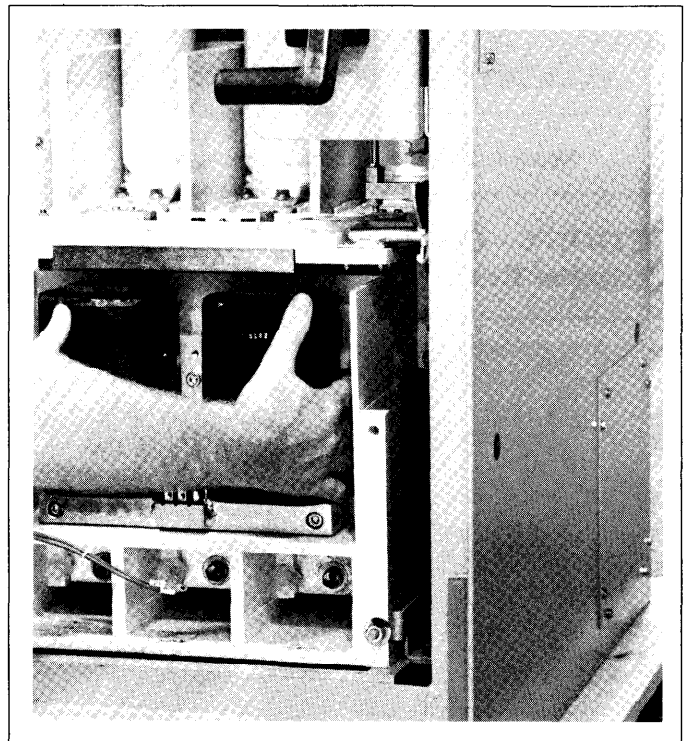
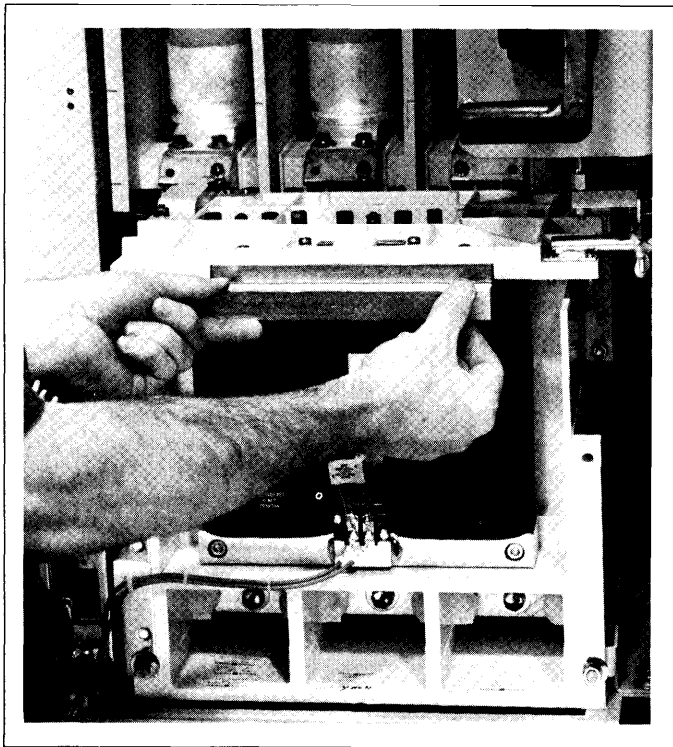
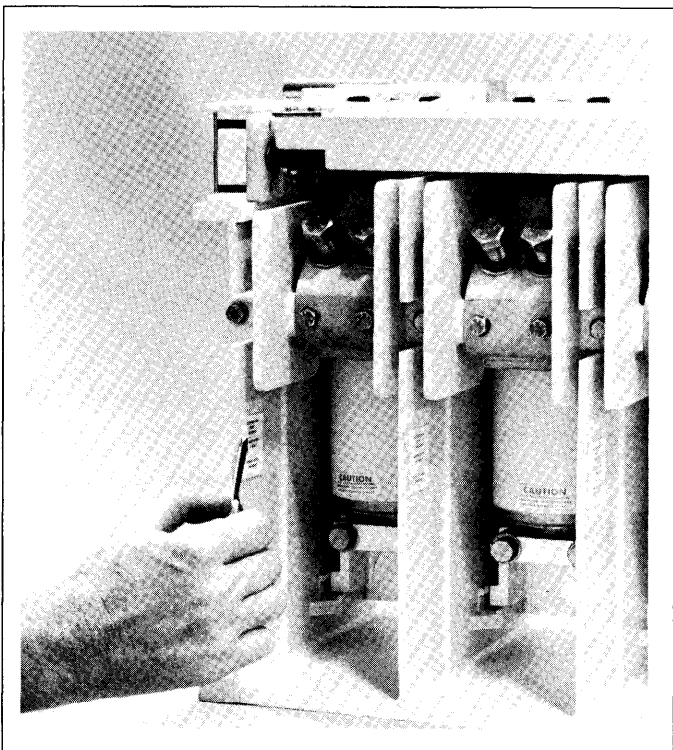
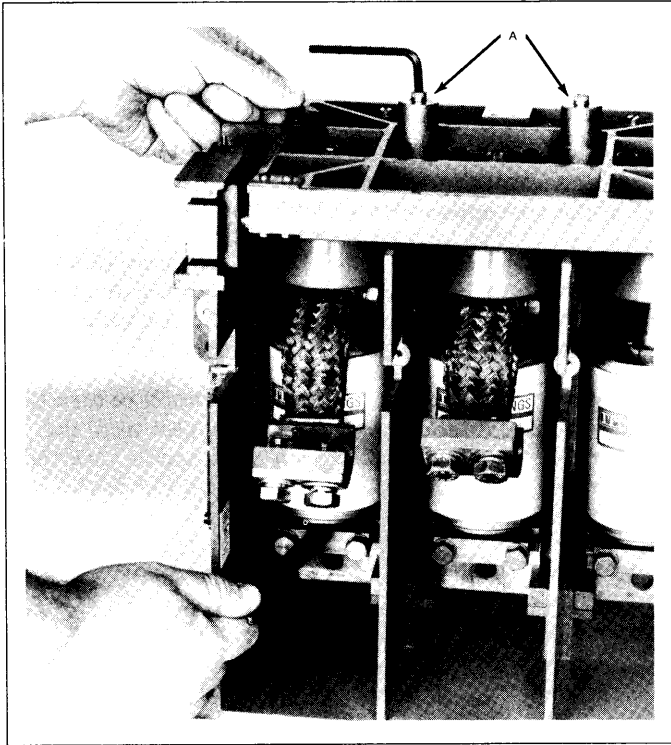

Figure 3. Removal of coil assembly.
Figure 4. Insertion of armature setting gage.
Figure 5. Appropriate removal of peel-off label.
Figure 6. Checking contact wear with wear gage.
5. Lift coil assembly out of contactor. See Figure 3.
6. Position the new coil into the contactor and start the three (3) mounting screws. Do not fully tighten these screws at this time.
7. Close contactor manually using the contactor closing tools. See Item A, Figure 6. Ensure that the pole faces of the coil mate with the moving armature.
8. Tighten the three (3) coil mounting screws fully. Open contactor by removing closing tools.
9. With the contactor in the open position check the magnet and coil air gap using the armature setting gage. Insert the gage fully between the armature and the coil pole faces. The gage should be a close sliding fit. See Figure 4. If adjustment is necessary follow Steps 10 and 11. If adjustment is not required then no other checks of the coil are necessary. Proceed directly to step 11.
10. Remove the two (2) barrel nuts at top of push-off spring rods (See Figure 4, Item C) and adjust the two (2) plastic stop nuts until the close sliding fit is obtained at the gage. Reassemble the two (2) barrel nuts and tighten them against the plastic stop nuts.
1. Close the contactor using the contactor closing tools (Item A, Figure 6). Do not overtighten. A single sheet of ordinary paper inserted between the armature and closing coil may be used as a helpful feeler gage to determine when the armature has just closed against the face of the coil poles.
2. Check for contact wear by inserting the “RESET” end of the contact wear gage between the locknuts and the spacer sleeve as shown in Figure 6. If the “RESET” end of the gage CANNOT be inserted then the interrupter needs to be reset. Follow Steps 3 through 7. If reset is not required go to Step 7. Each interrupter should be checked and reset as required.
4. Using the interrupter adjustment wrench turn the alignment ball to raise the interrupter until the “INITIAL” end of the gage can be inserted as shown in Figure 6.
5. Retighten the two (2) clamp block screws (8 lb-ft.) to lock the alignment ball in place. After the clamp block screws are tightened check to see that the fit at the wear gage is tight; if not re-adjust the interrupter position as described in Step 4.
6. Adjacent to the interrupter is an interrupter reset indicator label. This label indicates the number of times each interrupter has been reset. Remove the appropriate portion of the peel-off label. See Figure 5. If the interrupter has previously been reset two (2) times then the indicator label will show blue and red marking in the areas where the peel-off portions of the label have been removed during previous resets. If this is the case the interrupter must be replaced. Refer to Section 7 “Interrupter Replacement”.
11. Using the interrupter adjustment wrench to turn the alignment ball, raise or lower the interrupter until the “INITIAL” end of the contact wear gage can be inserted between the spacer sleeve and the nuts on the driver stem. See Figure 6.
12. Tighten the two (2) clamp block screws (8 lb-ft.) to lock the alignment ball in place. After the clamp block screws are tightened check to see that the fit at the wear gage is tight; if not re-adjust the interrupter position as discussed in Step 11.
13. Remove the old interrupter reset indicator label that is adjacent to the interrupter and apply new label supplied. See Figure 5.